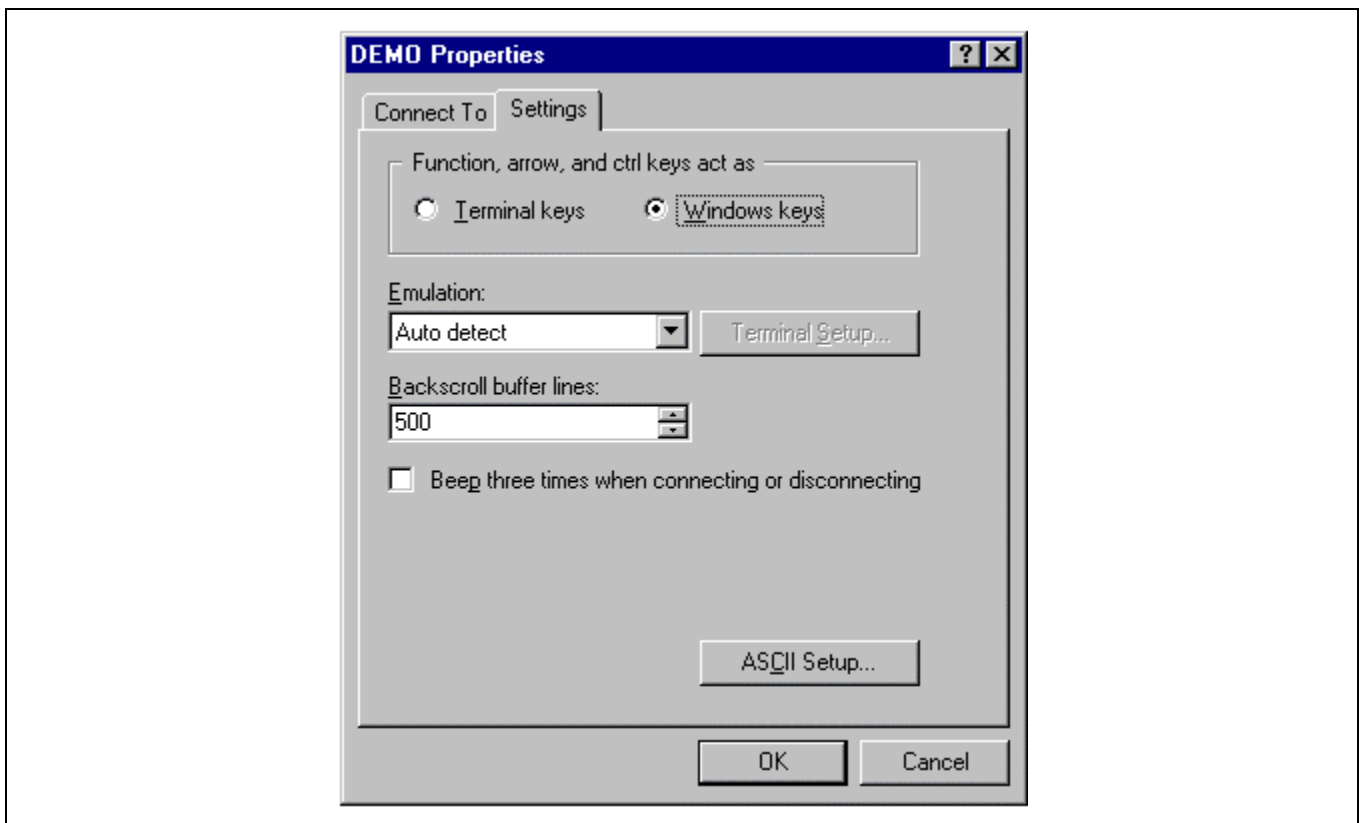

Figure 2-4. Choose Setting Page
5. Choose Setting Page (Figure 2-4)